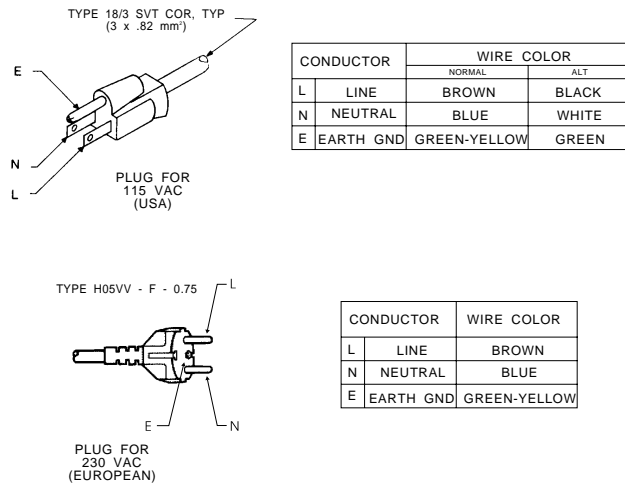

Figure 2-1: AC Line Cord Wire Standard
2-7	Figure 2-1: AC Line Cord Wire Standard
- B  Refer to Figure 2-1 to find the jumpers on the main circuit board and to position them according to your application.
To change the source impedance of composite output #1, move jumper JA to the “75 $\Omega$ ” position (Fig 2-1). To change the source impedance of composite output #2, move jumper JB to the “75 $\Omega$ ” position (Fig 2-1).
Move jumpers J301 and J305 according to Figure 2-1. Jumper J301 sets the left channel and jumper J305 sets the right channel.
Move jumpers J302, J303, J306, J307 and J308 according to Figure 2-1. Jumpers J302 and J303 set the left channel and jumpers J306 and J307 set the right channel. Jumper J308 sets the control circuit to recognize the new input sensitivity.